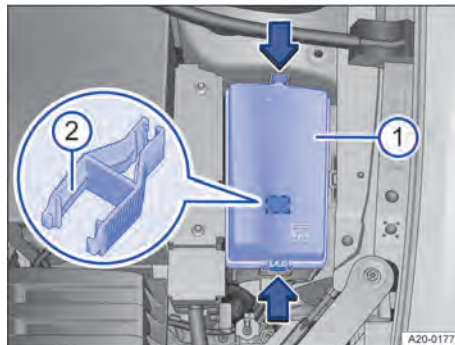

Fig. 182 In the engine compartment: fuse box with plastic grippers.
There may be a pair of plastic grippers for removing fuses in the fuse box → Fig. 182
2. To release, push the catches in the direction of the arrows → Fig. 182.
3. Lift off the cover → Fig. 182 ①.